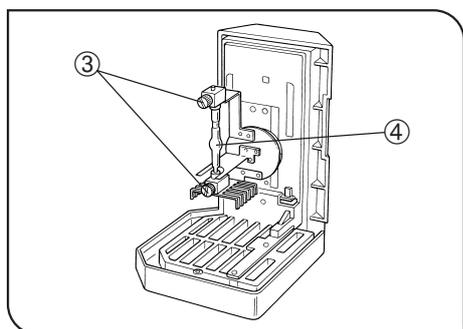

Fig. 19
3. Place the socket section upside down as shown in Fig. 19.